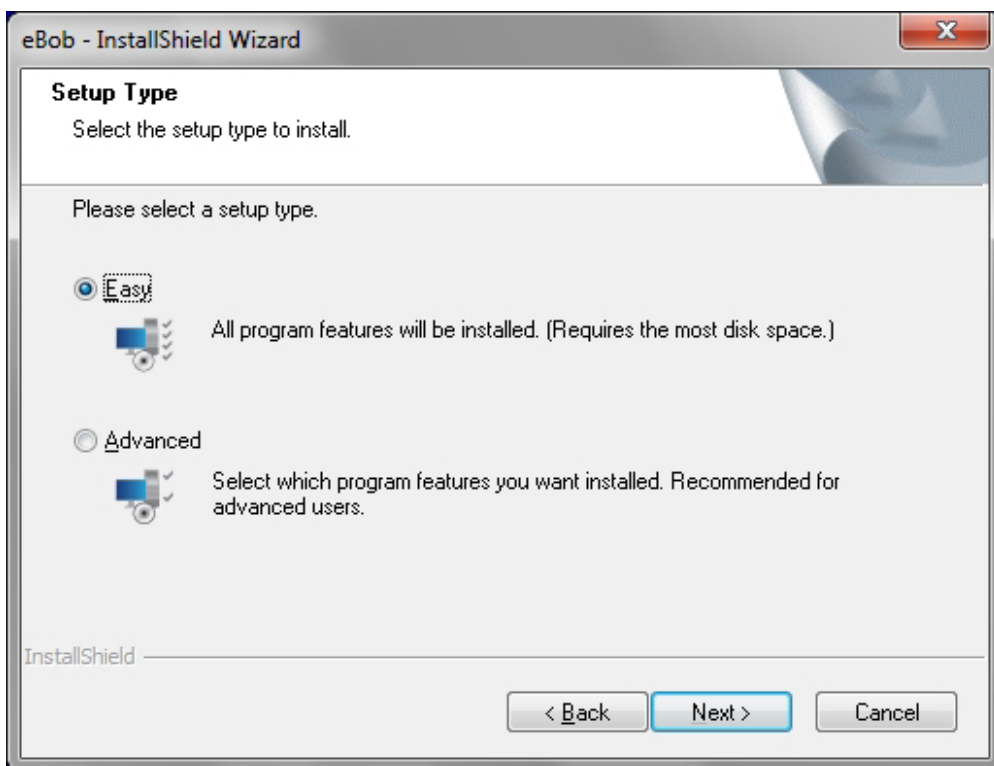

Figure 2
4. Follow the on-screen instructions and select the Easy option when prompted for the setup type. See Figure 2.